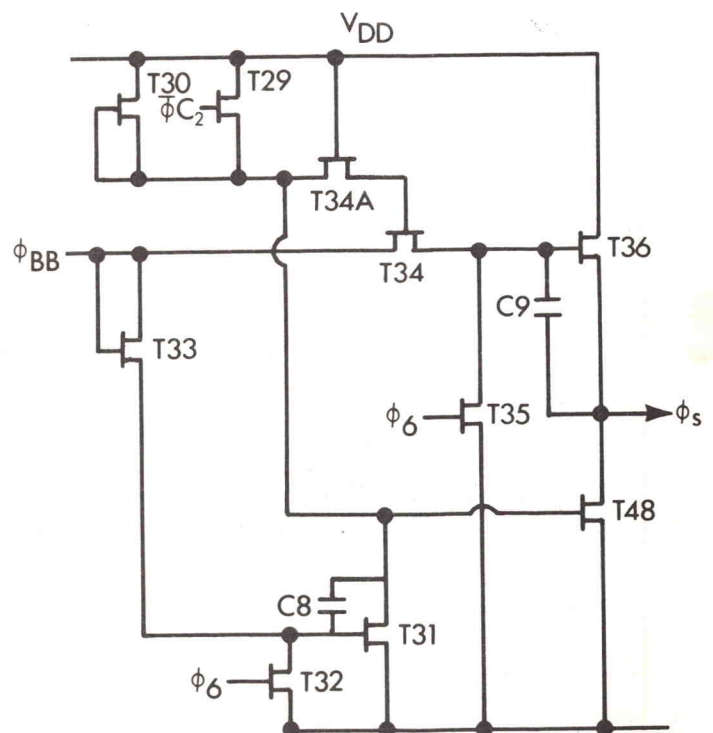

Figure 1 —  $\phi_s$  clock
2. Attempts were also made to reduce the amount of internal interconnections. Many of the internal clocks appear to have a self-timing circuit to restore the initial state of the clock generator (see Figure 1). This eliminates the need to route clock signals around the chip for restoration purposes.